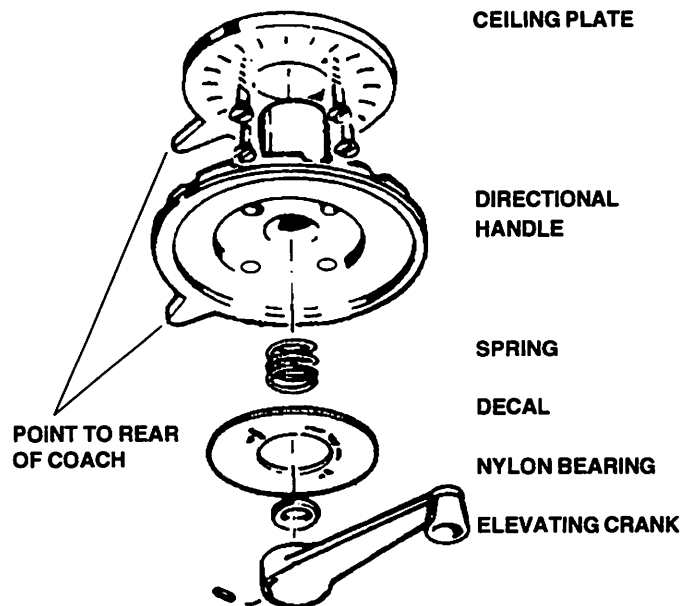

FIGURE 5
STEP 8: Lay ceiling plate on top of **directional handle** with pointers aligned and slide assembly over **rotating base shaft** in ceiling. Make pilot holes in ceiling. **Mount ceiling plate with directional handle in place** with screws provided. See Figure 5.
STEP 9: Assemble directional handle, spring, nylon bearing, directional handle decal and elevating crank as shown in exploded view in Figure 5. Remove backing from crank cover decal and press firmly inside directional handle. Slide all parts over elevating shaft and install elevating crank so set screw is on one of the six flat sides of elevating shaft before tightening screw.